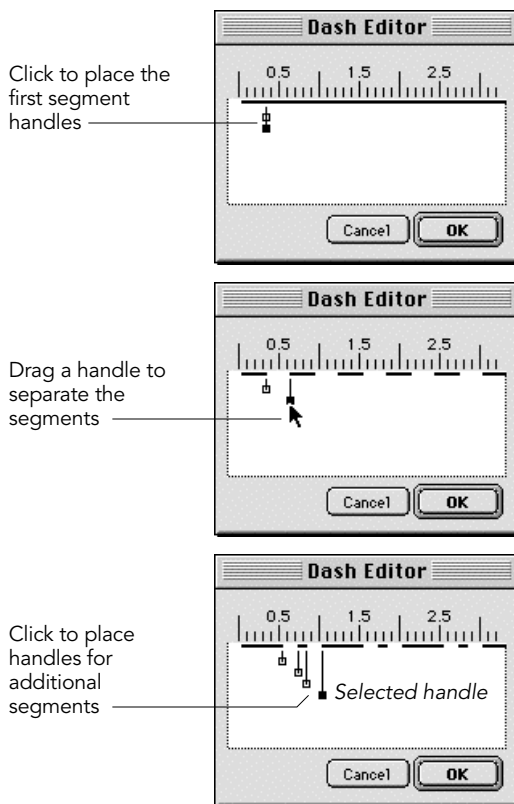

Fig. 179 Using the Dash Editor
2. Double-click a Pen Style you created that you want to edit. The Dash Editor dialog box appears (*figure 179*).